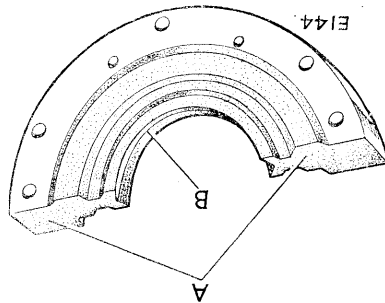

Fig. A-19—Rear crankshaft oil seals—2-piece type
- The compound should be spread thinly over the surface, ensuring it reaches across the sealing lips, but must not be allowed to get on to the lips themselves. See Fig. A-19. This compound must be allowed to become tacky before assembly.